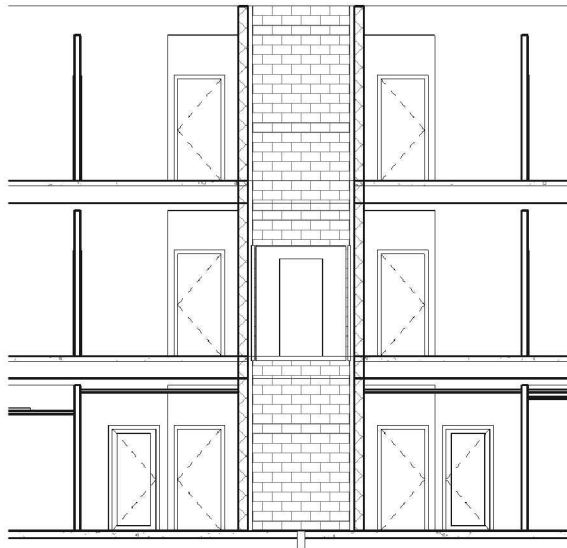

FIGURE 10-1.4 Section view – zoomed in
9. Zoom in to the elevator shaft area as shown in **Figure 10-1.4**.